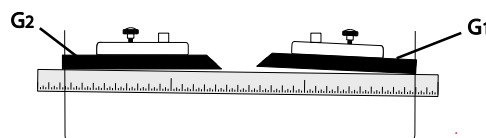

Figure 8
**Adjustment is required** if the fences appear skewed (Figure 8). Continue with *Coplanar Adjustment* (following steps).
Determine which fence is skewed (in this example: G1, Fig. 8), which will require adjustment while the remaining fence (G2) will serve as the reference point.